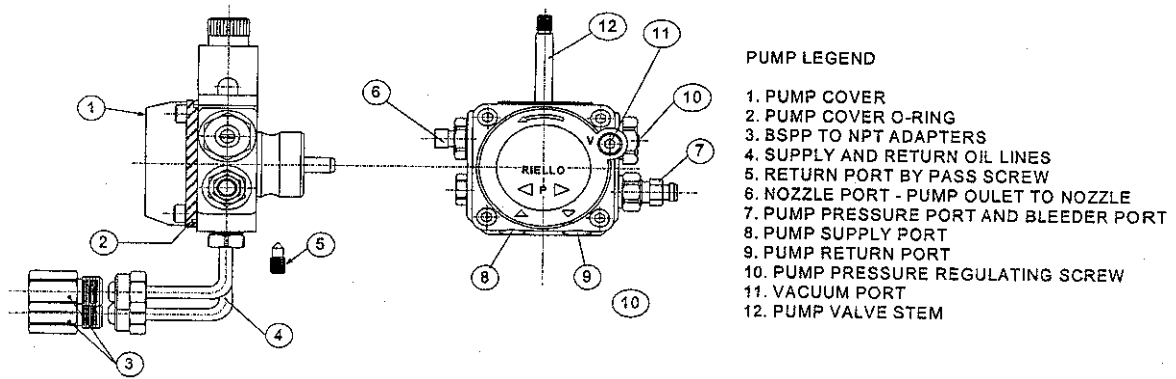

Figure 28: Pump Connections and Port Identification
7. **Pump Connections and Port Identification**, Refer to Figure 28.